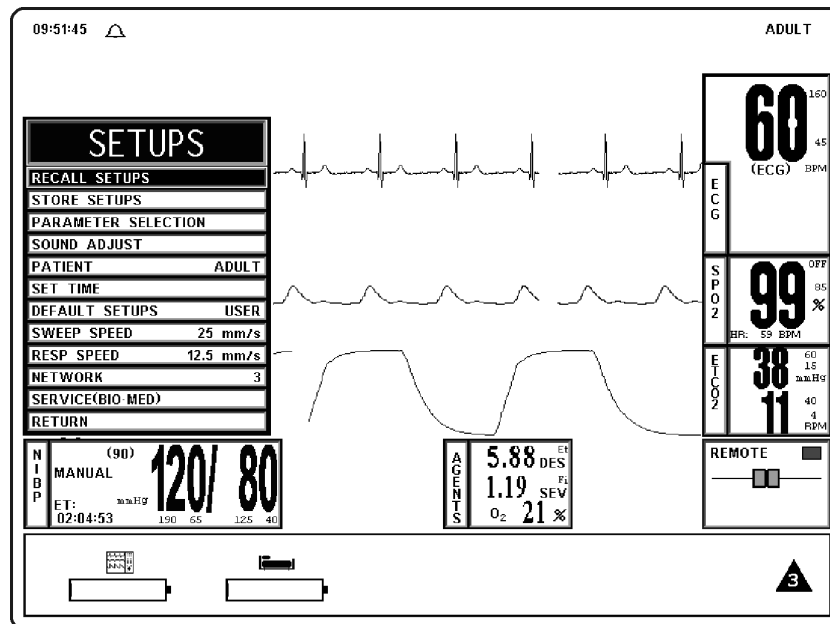

Figure 3-1. The DCU SETUPS Menu
3.2 SETUPS Menu. (See Figure 3-1) On the DCU, pressing the **SETUP** Menu-Select key brings up the **SETUPS** Menu; on the WPU, attach an external monitor and keyboard then select the **SETUP** Menu-Select key. From this menu, the operator has the ability to fine tune the operation of the **3160 MRI Physiological Monitoring System** to suit individual situations.